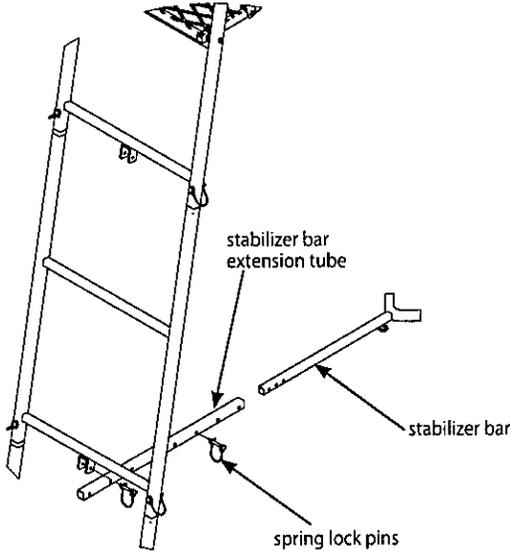

Figure 4
- 7. a. Attach the stabilizer bar extension tube (1ML23) to the third ladder section mounting bracket using (1) provided spring lock pin. **SEE FIGURE 4.**
b. Slide the stabilizer bar (L29) into the extension tube and attach the two pieces together using (1) provided spring lock pin. Spring lock pin must go through both the extension tube and the stabilizer bar at appropriate hole to achieve desired distance from tree. Adjustment in length may be needed when ladder is uprighted later in instructions. **SEE FIGURE 4.**